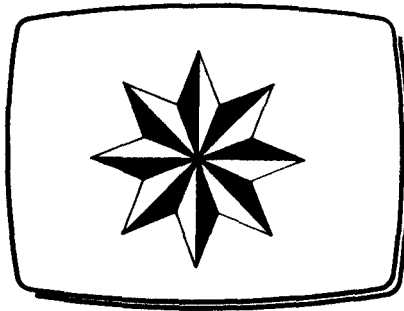

Fig 5
- 13 **COPY** the complete shape, then plant it centre screen at various scales (Fig 5).